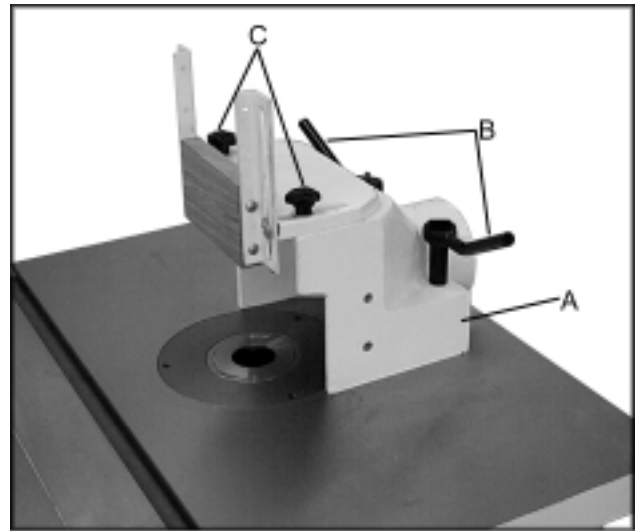

Fig. 1
5. Place the dust chute (A, Fig. 1) on the table and secure by threading two ratcheting handles (B, Fig. 1) into the tabletop.
6. Secure the spindle guard assembly to the dust chute using two knobs and two washers (C, Fig. 1). **Note:** You should first attach the wood piece to the two brackets with four wood screws. Then attach the wood and brackets to the plate guard using two screws and washers.